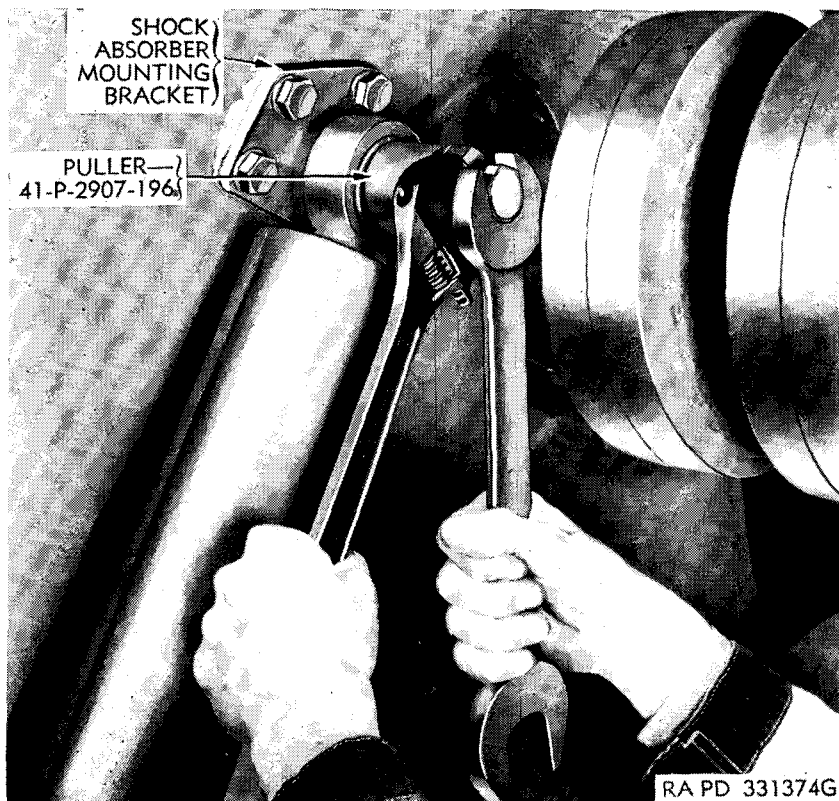

Figure 155. Removing shock absorber.
a. REMOVAL. Working at upper end of shock absorber, remove cotter pin, nut, and washer that hold end of shock absorber to mounting bracket on hull side. Screw puller—41-P-2907-196 on bushing flange of shock absorber. Hold body of puller with large crescent wrench and turn down puller bolt, pulling shock absorber off pin (fig. 155). Working at lower end of shock absorber, remove cotter pin, nut, and washer that hold shock absorber to mounting pin on support arm.